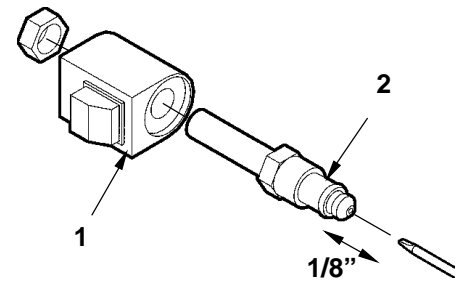

FIG. 41-2
3. Check if Solenoid Valve is getting power by holding a screwdriver against the top nut of the Solenoid. Push Control Switch to "**LOWER**" position to energize solenoid (**FIG. 41-2**). A good solenoid will attract (magnetically) the screwdriver to the nut and make it difficult to pull the screwdriver away from the nut.
4. Check the Valve Stem by removing the Coil Assembly (**Item 1, FIG. 41-2**). With platform supported, unscrew the Valve Stem (**Item 2, FIG. 41-2**) from the Pump. Push on the plunger located inside the Valve Stem by inserting a small screwdriver blade in the end. If the Plunger does not move freely (approximately 1/8") replace the Valve Stem.